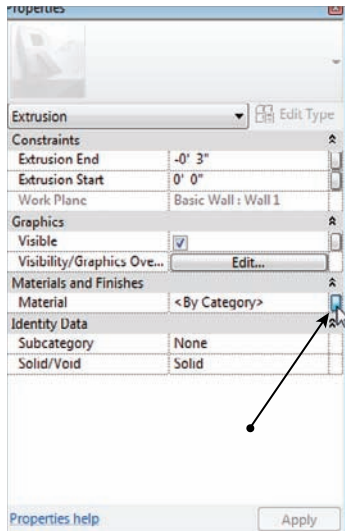

FIGURE 17.19 Clicking the button to add a material parameter
14. In the Properties dialog, make sure the type is set to Extrusion, as shown in Figure 17.19.
15. Set Extrusion End to -3" (-75mm), as shown in Figure 17.19.
16. Click the small button to the right of the Material row (see Figure 17.19).